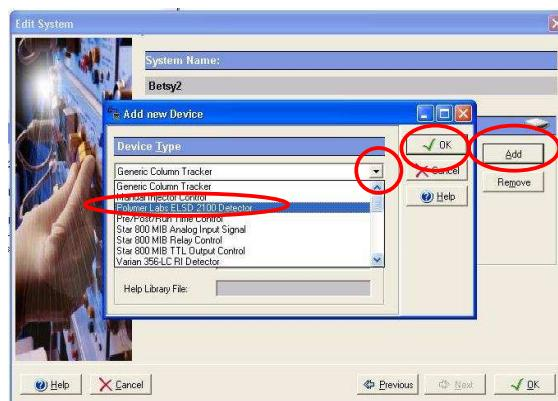

Figure 6: Add New Device Window
6. Click **Next** twice until the following screen appears (Fig 6). Click on the **Add** button and the **Add new Device** window will appear. Click on the pull down menu and select the “*Polymer Labs ELSD 2100 Detector*” driver. This driver is selected for the Polymer labs 2100/2100ICE, 380 and 385 ELSD instruments. Once selected click **OK** and this will add the ELSD to the instrument devices to be installed under this system.